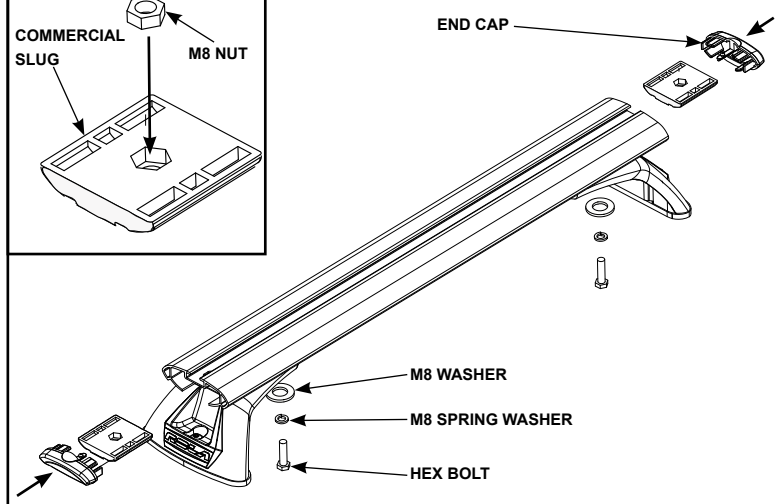

FIG 7
- Secure the Cross Bar to the End Support by screwing the Hex Bolt through the hole in the End Support and up into the Nut that is located in the cavity of the Commercial Slug (Fig. 7).